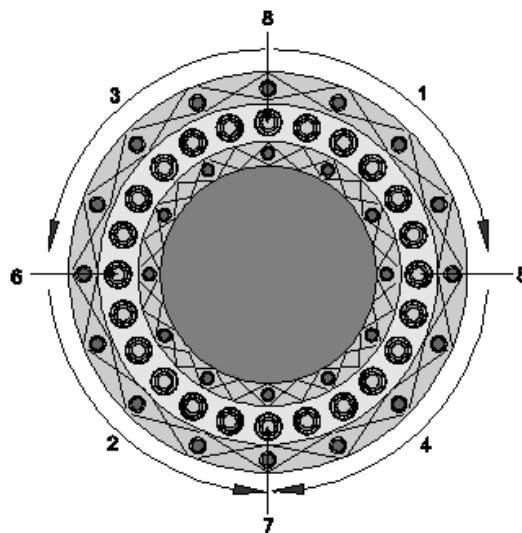

Figure 1
2. Remove the hexagon bolts and washers. Keep to the order shown in Figure 1 when doing so.